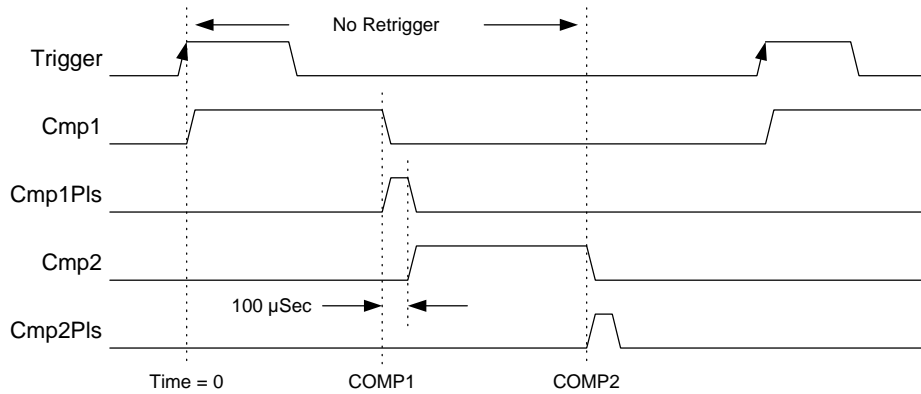

Figure 5. Camera Control Output Signals
The CPLD has two counters for generating line/frame start and exposure timing signals (Figure 5). These 9-bit counters run at 10 KHz, allowing timing from 100 microseconds to 50 milliseconds. The counters are triggered by the rising edge of one of the two EXT_TRIG_n inputs from J1A/J1B. Upon triggering, they count up from zero and stop when they reach maximum count (511). Two 9-bit compare registers, COMP1 and COMP2, are associated with each counter.
The FastImage board uses the Video In and Video Out units for interprocessor communication as well as video I/O. A special “message passing” mode allows video outputs to connect to video inputs using 8 data bits along with start and stop message bits (Figure 5). In “message passing” mode, the Video Out unit can source data at up to 80 MB/s, and the Video In unit can accept data at up to 80 MB/s. The Video Out unit has a programmable clock generator which can be programmed for byte rates of 4 to 80 MHz. Thus interprocessor link byte rates can be tuned to optimize the bus and SDRAM usage.